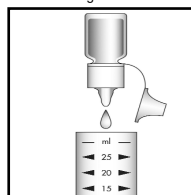

Figure 2
3. Shake the A-3801 Activator Solution and then add 5 drops (fig. 2). Stir to mix the contents of the cup.